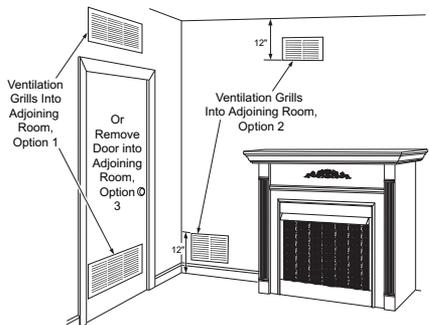

Figure 4 - Ventilation Air from Inside Building
This fresh air would come from an adjoining unconfined space. When ventilating to an adjoining unconfined space, you must provide two permanent openings: one within 12" of the ceiling and one within 12" of the floor on the wall connecting the two spaces (see options 1 and 2, Figure 4). You can also remove door into adjoining room (see option 3, Figure 4). Follow the *National Fuel Gas Code, ANSI Z223.1/NFPA 54, Air for Combustion and Ventilation* for required size of ventilation grills or ducts.
- where curtains, furniture, clothing, or other flammable objects are less than 36" from front or 42" from top of firebox; for side clearances see Figure 4, page 11
*Example:* The face of a mantel, bookshelf, etc. is made of combustible material and protrudes 3 1/2" from the wall. This combustible material must be 4" from the side of the fireplace cabinet (see Figure 4).